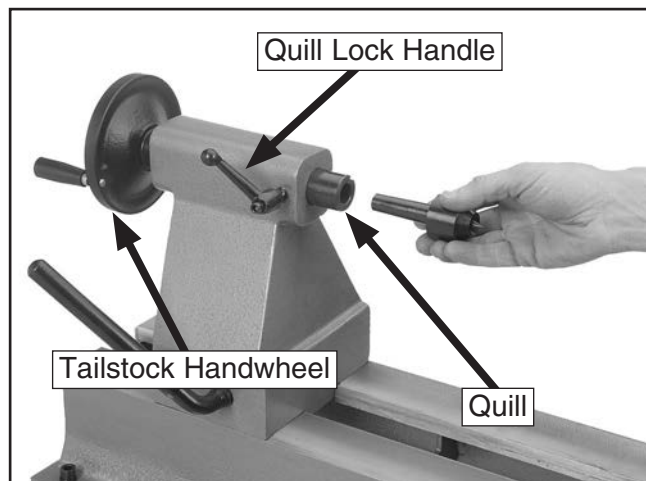

Figure 27. Installing center into tailstock quill.
1. Loosen the quill lock handle and rotate the tailstock handwheel until the quill extends out about 1" (see **Figure 27**).
3. Insert the tapered end of the center into the tailstock quill as shown in **Figure 27**.